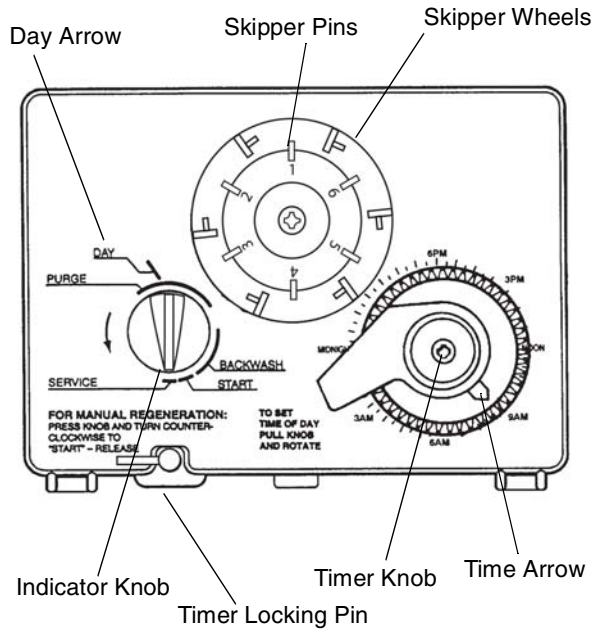
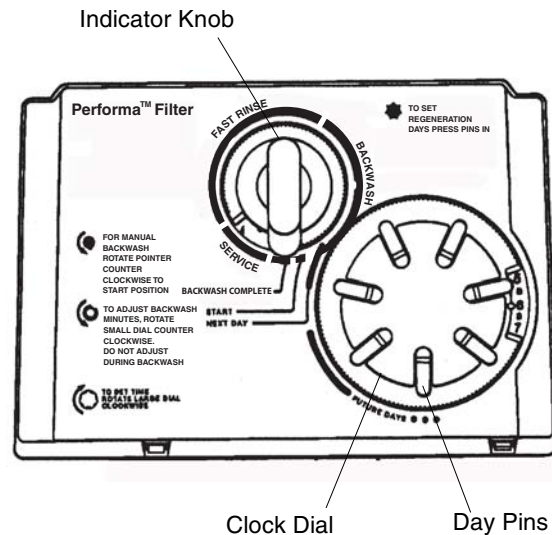
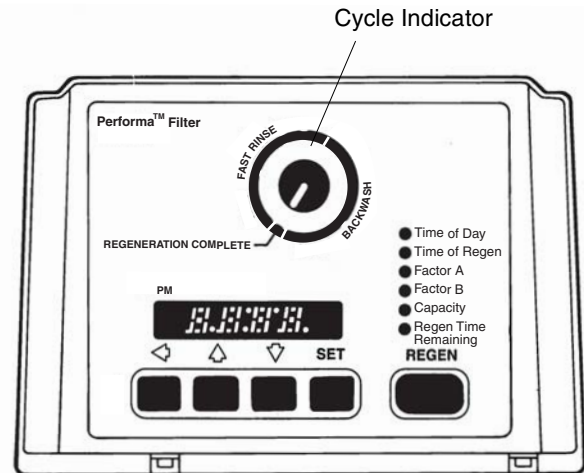

Figure 4
Figure 5
Figure 7
**Note:** The following steps will require turning the indicator knob (Figure 4 and Figure 5) or the cycle indicator (Figure 7) to various positions. Manually rotate the camshaft **COUNTERCLOCKWISE** only until indicator knob and cycle indicator points to desired position. (See manual regeneration sections for each control's manual operation.)
1. Set days of regeneration on skipper wheel (Figure 4).
**Note:** The timer locking pin should always be horizontal (Figure 4) during operation.
When abnormally high water usage exhausts your water conditioner's capacity ahead of schedule, an extra regeneration can be achieved. Depress the indicator knob on the 440i (Figure 4) with a wide-blade screwdriver and turn **COUNTERCLOCKWISE** to **START** to initiate a regeneration. It will take a few minutes for regeneration to start. A normal regeneration will take approximately two hours.
Electricity is used only to run the control and to rotate the camshaft. All other functions are operated by water pressure. Therefore, in the event of a power outage, all the regeneration positions may be dialed manually by depressing the indicator knob and turning **COUNTERCLOCKWISE** (Figure 4). The following cycle times should be used for proper regeneration:
1. Set days of regeneration (Figure 5).